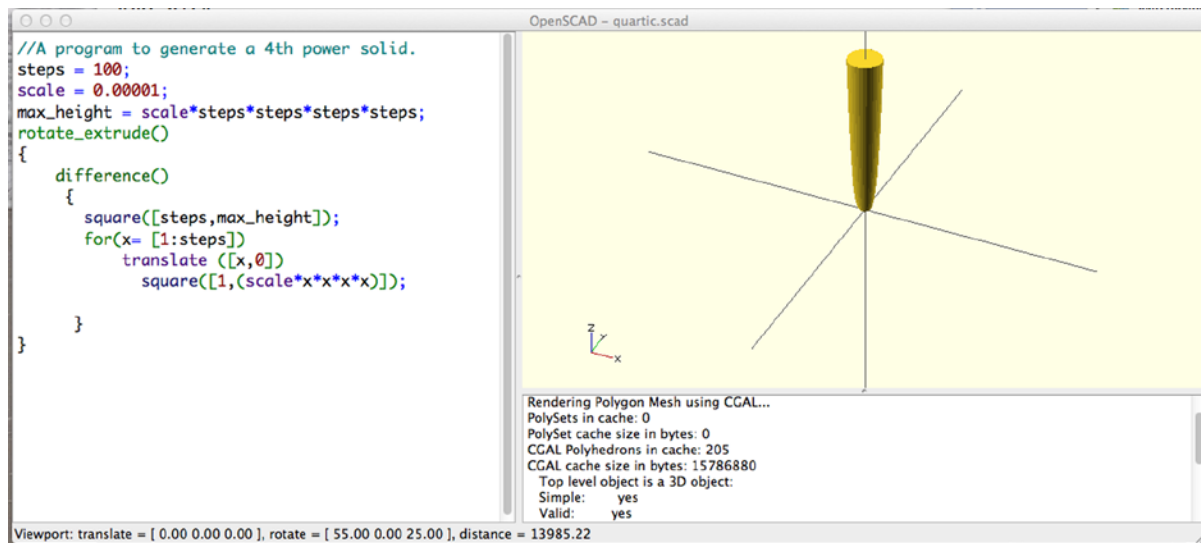

Figure 13-6. OpenSCAD code to generate a fourth-power surface of revolution with `rotate_extrude()`
OpenSCAD (Chapter 4) is a particularly good tool for generating 3D versions of surfaces of revolution to learn more advanced mathematics or perhaps to explore different shapes for an artistic or architectural endeavor. Figure 13-6 shows the code for and a rendering of a surface where the vertical dimension is proportional to the fourth power of the horizontal one.
- We created the two-dimensional graph of the fourth-power curve by making 1mm-wide strips along the x axis of height equal to the fourth-power function. This gave us the 2D outline of half of the form you see in Figure 13-6.